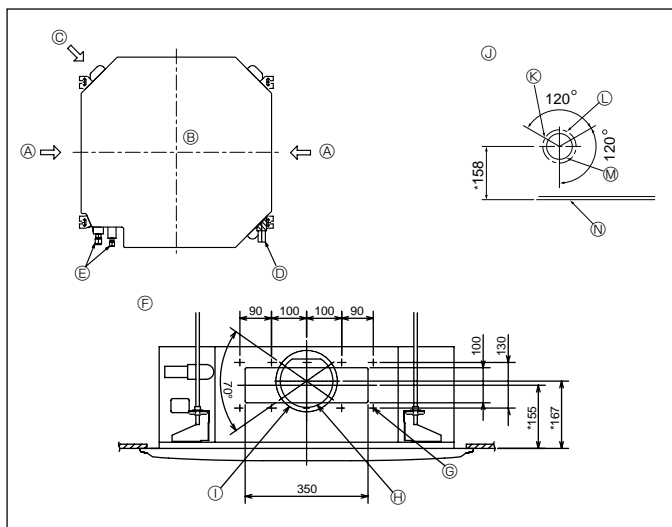

Fig. 2-3
2.3. Branch duct hole and fresh air intake hole (Fig. 2-3)
At the time of installation, use the duct holes (cut out) located at the positions shown in Fig.2-3, as and when required.